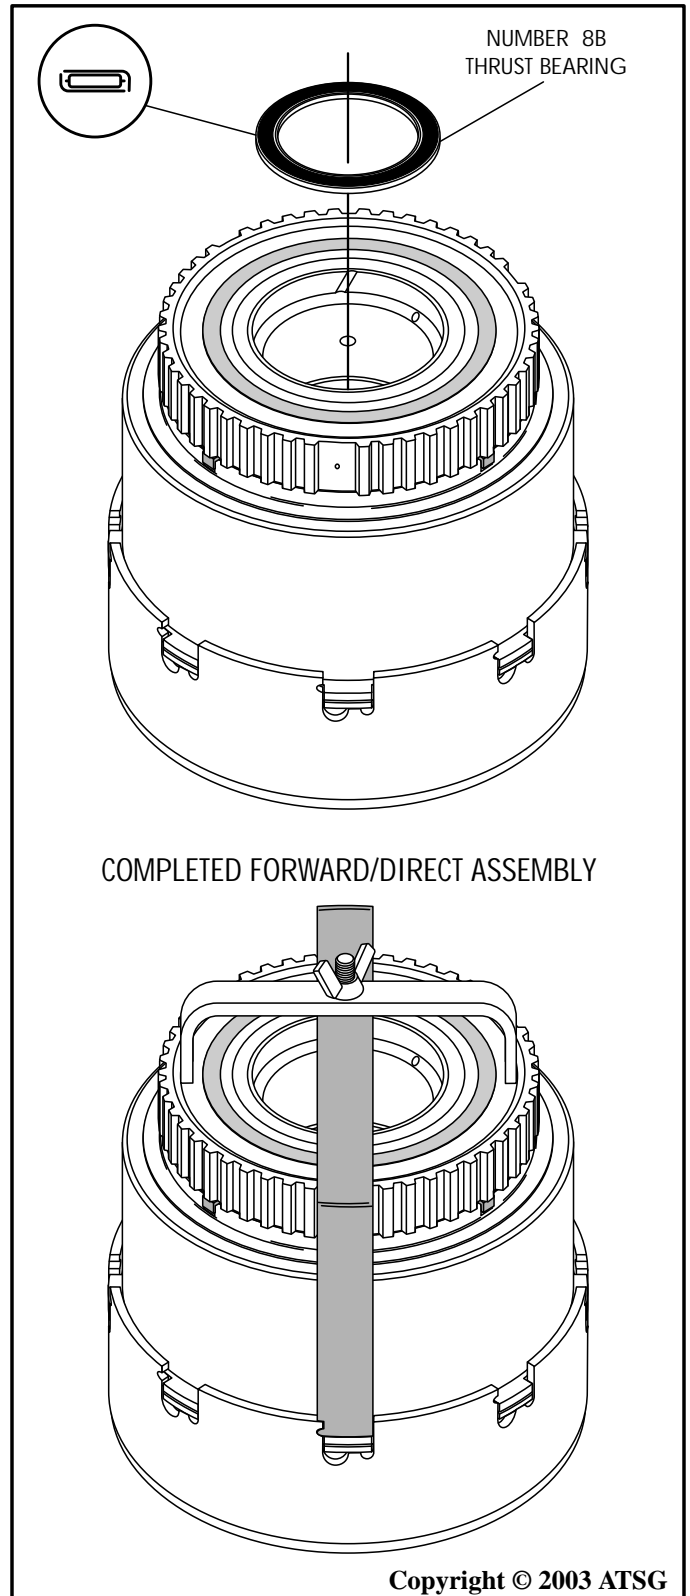

Figure 131
11. Hold the completed assembly together and roll complete assembly over so that it is setting on the sun gear, as shown in Figure 131.
12. Install the number 8B thrust washer onto the forward clutch drum surface, in the direction shown in Figure 131.
13. Install the installation tool onto the complete assembly, as shown in Figure 131, and set the completed assembly aside for final assembly.